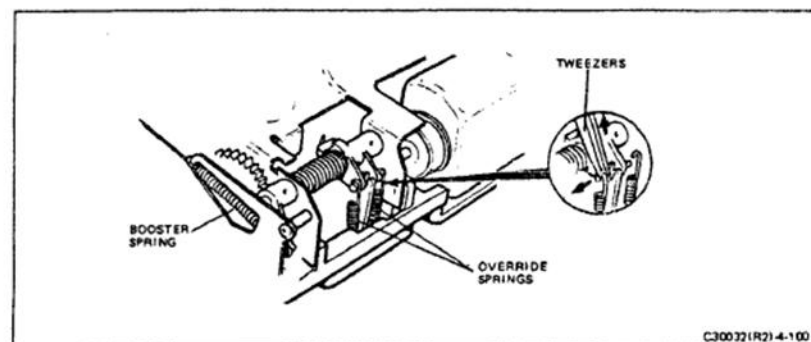

FIGURE 4-100 REMOVING OVERRIDE SPRINGS
8. Refer to Figure 4-100. Use Special Tool #11680 or tweezers and remove the two override springs.
12. Reconnect the two override springs (Figure 4-100).